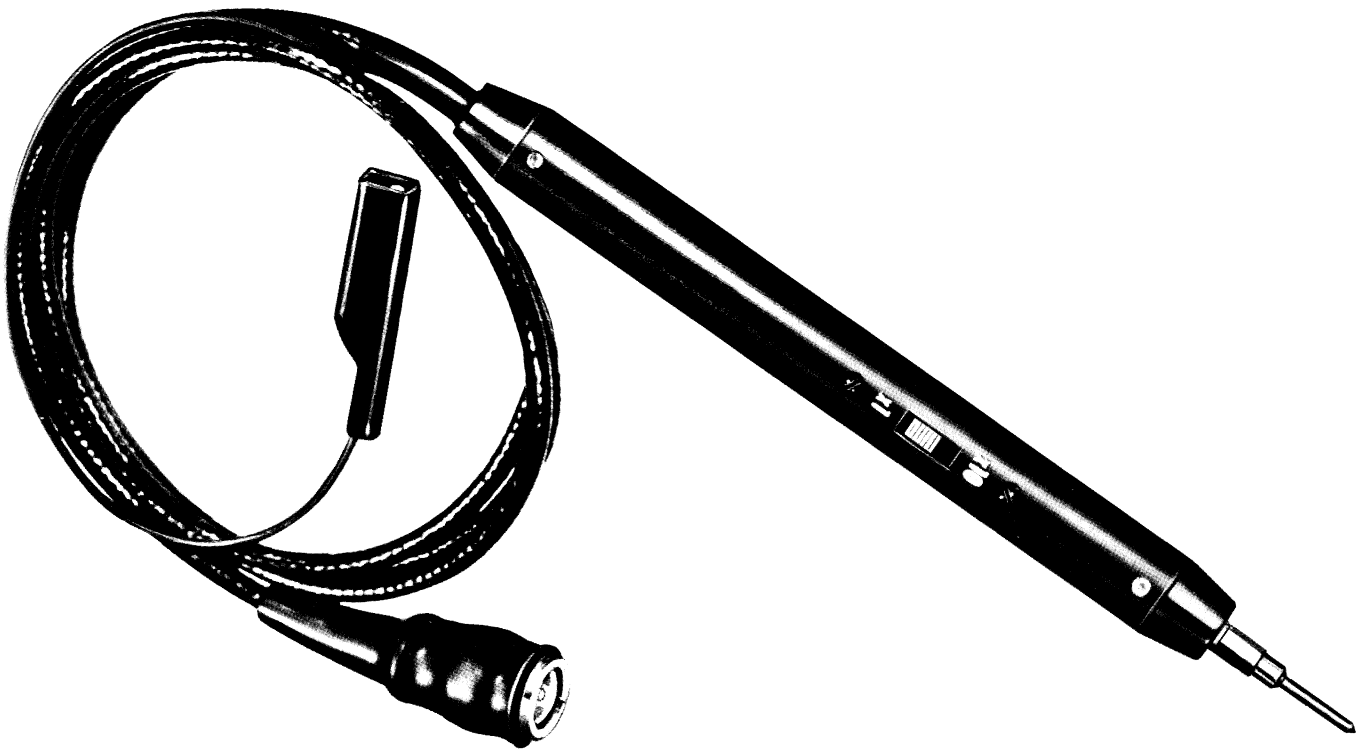

Figure 4-1. Low Capacitance Probe, Model 07548
4.8 ACCESSORY LOW CAPACITANCE PROBE (See Figure 4-1)